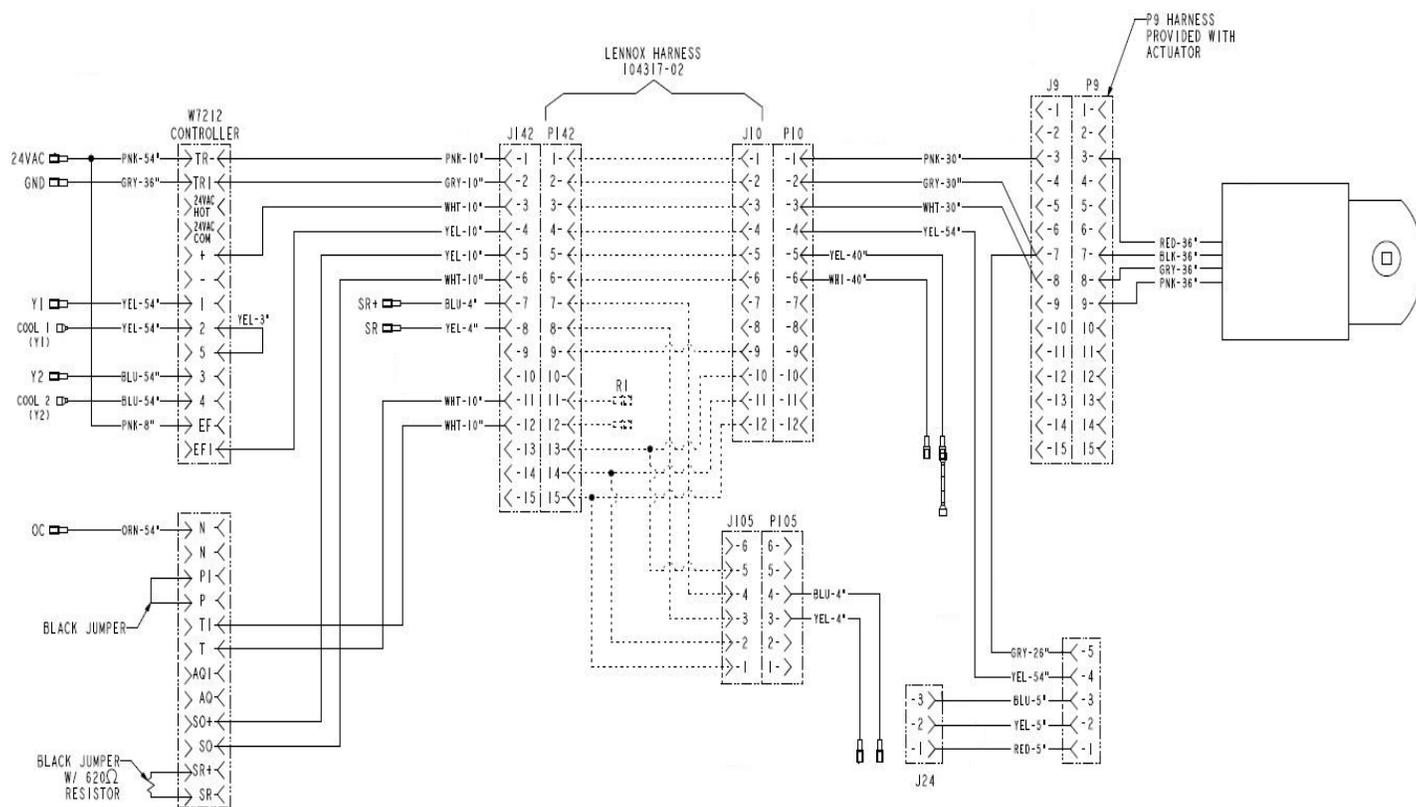

Figure 5 - Wiring Detail
5. Connect any optional sensors as shown in Figure 5.
6. If optional power exhaust is used, wire according to instructions provided with power exhaust. See Figure 5.